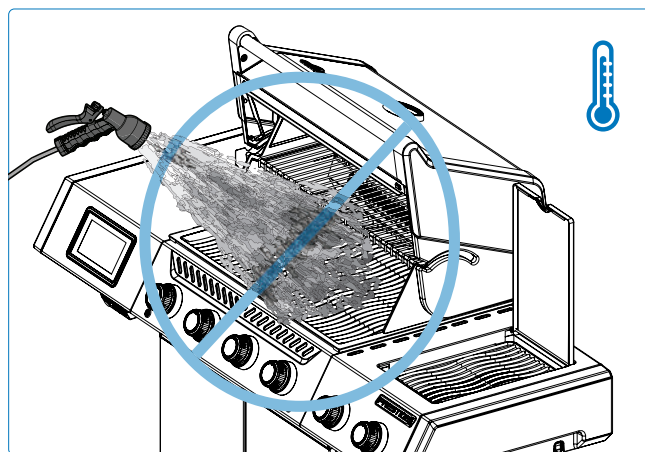

Fig. 17
1. Never douse a flame or control flare-ups with water (**Fig. 17**).